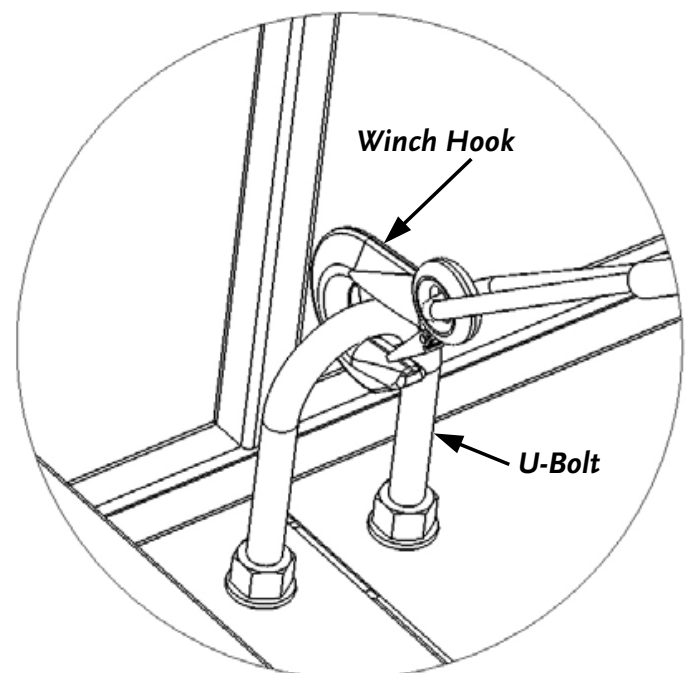

Figure 48
6. Attach the Hook from the Winch to the U-Bolt in the Bed (**Figure 48** on page 21).
**NOTE:** If you are loading material into the Bed that you wish to dump, make sure the Winch Hook is properly secured to the U-Bolt inside the Bed (**Figure 48**, on page 21).